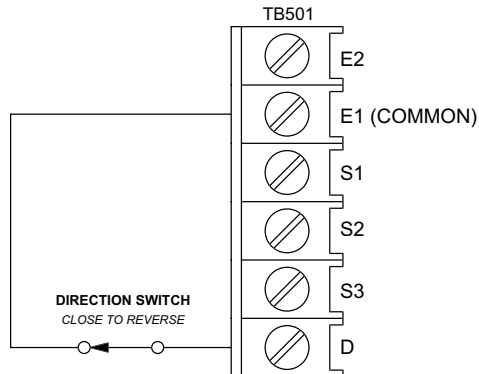

Figure 11. Signal and Optional Switch Connections
Connect a single-pole, single-throw DIRECTION switch between the (D) and COMMON (E1) terminals as shown in Figure 11 below. Opening the switch will cause the motor to rotate in the forward direction; closing the switch will reverse motor rotation.